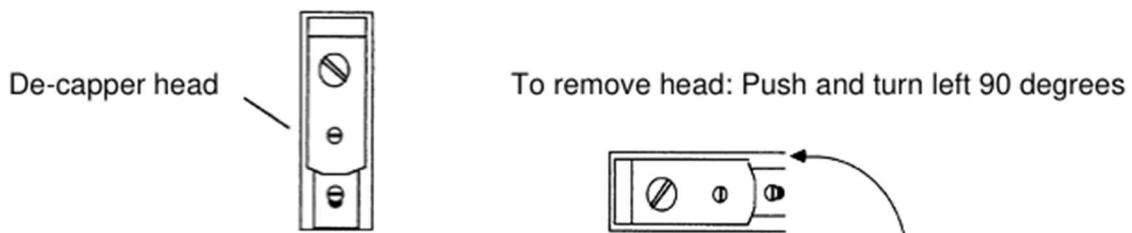

Figure 5: Removal of decapper head
- Push de-capper head and turn left (90 degree counter clockwise). **Se figure 5.**